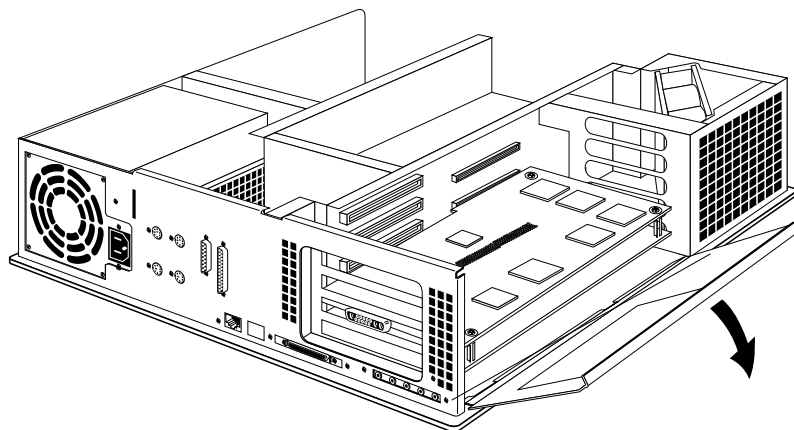

Figure 2-17 Lowering the Metal Panel in Front of the Expansion Slots
2. Move the workstation or position yourself so that you are facing the expansion slots, as shown in Figure 2-17.
3. Open the metal panel in front of the expansion slots by pulling up on the panel and lowering it. Figure 2-17 shows an XZ graphics board set.